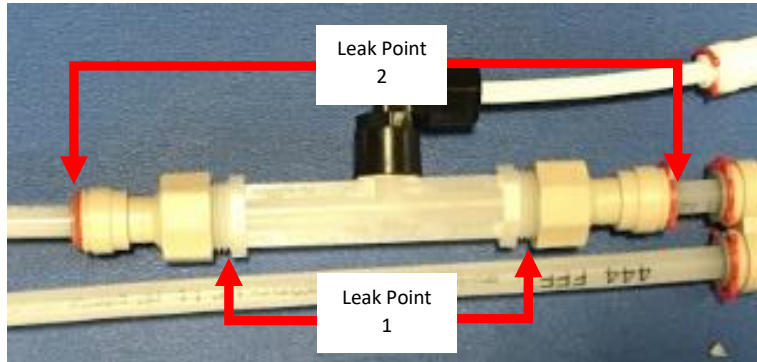

Figure 43: Leak points on the BSPP x Push to Fit Adaptors shown.
- i. If leak is coming from the push to fit connection, push the tube in further to engage the O-Ring inside the fitting. **See Figure 43.** If necessary, disassemble the tower to get better access. If this does not resolve the issue, replace the Nitro Tower Tubing Assembly. Refer to **Appendix I: Disassembling The Tower** to see how to disassemble and reassemble the Tower.
- ii. If the leak is coming from the threaded end, tighten the fitting. If this does not stop the leak, replace the Nitro Tower Tubing Assembly. **See Figure 43.** Refer to **Appendix I: Disassembling The Tower** to see how to disassemble and reassemble the Tower.